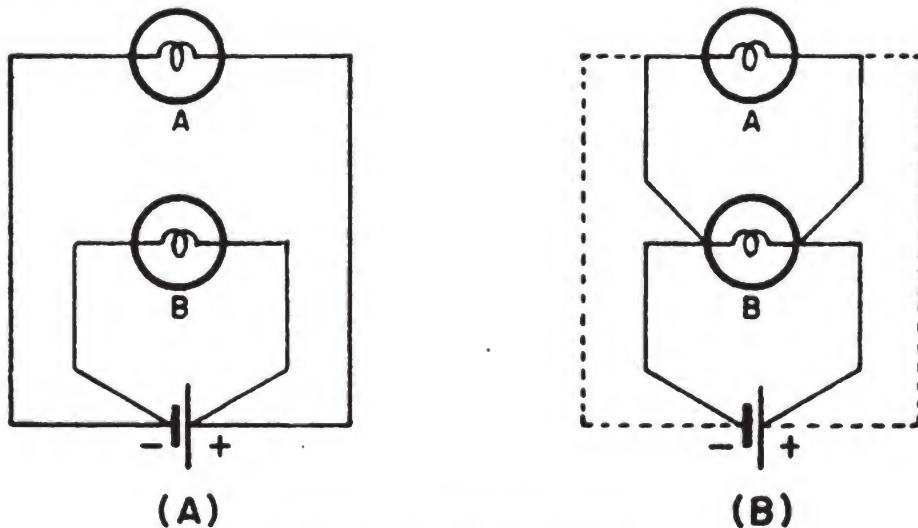

Figure 12.—Parallel circuit.
In (A) of figure 12, you have an illustration of two lamps connected in a PARALLEL CIRCUIT. In (B) of figure 12, you also have a parallel circuit. But the connections from device *A* are brought to device *B*. This results in a saving of wire.